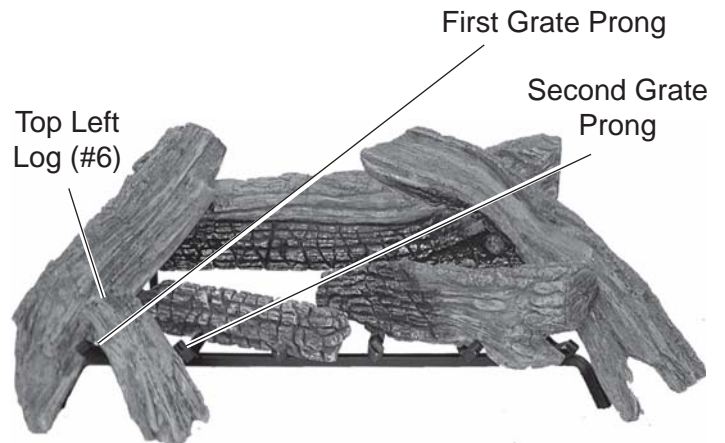

Figure 89 - Resting Top Left Log (#6) on Bottom Left Log and Back Log
7. Place end of Top Left Log #6 on bottom left log. Rest the other end between the first and second grate prongs. *See Figure 89.*